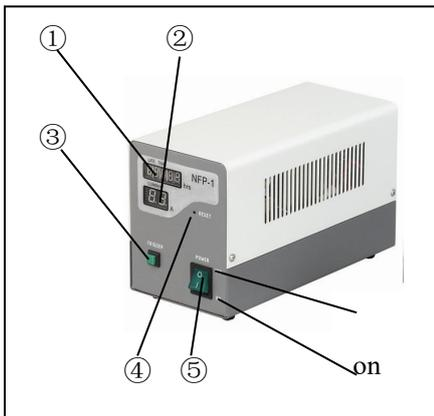

Fig 1
3.1.2 Function of button (Fig 1)
- ① Hour counter
- ② Ammeter
- ③ Excitation button(TRIGGER)
- ④ Reset button
- ⑤ Power switch